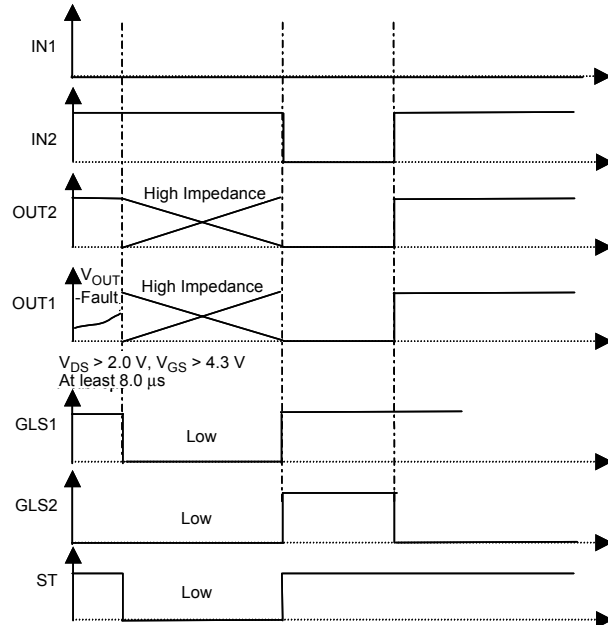

Figure 22. Overload on Low-Side 1
13. When a short to V_{BAT} of one of the low-side MOSFETs occurs, both outputs are opened to prevent the motor from running. Once the low-side overcurrent is removed, the input IN_n of the output that experienced the fault must be reset in order to recover the normal operation mode. Figure 22. Overload on Low-Side 1, page 18, shows an example. If an overload happens in low-side 1, OUT1 and OUT2 are both put in high impedance. IN2 must be reset to recover normal mode.